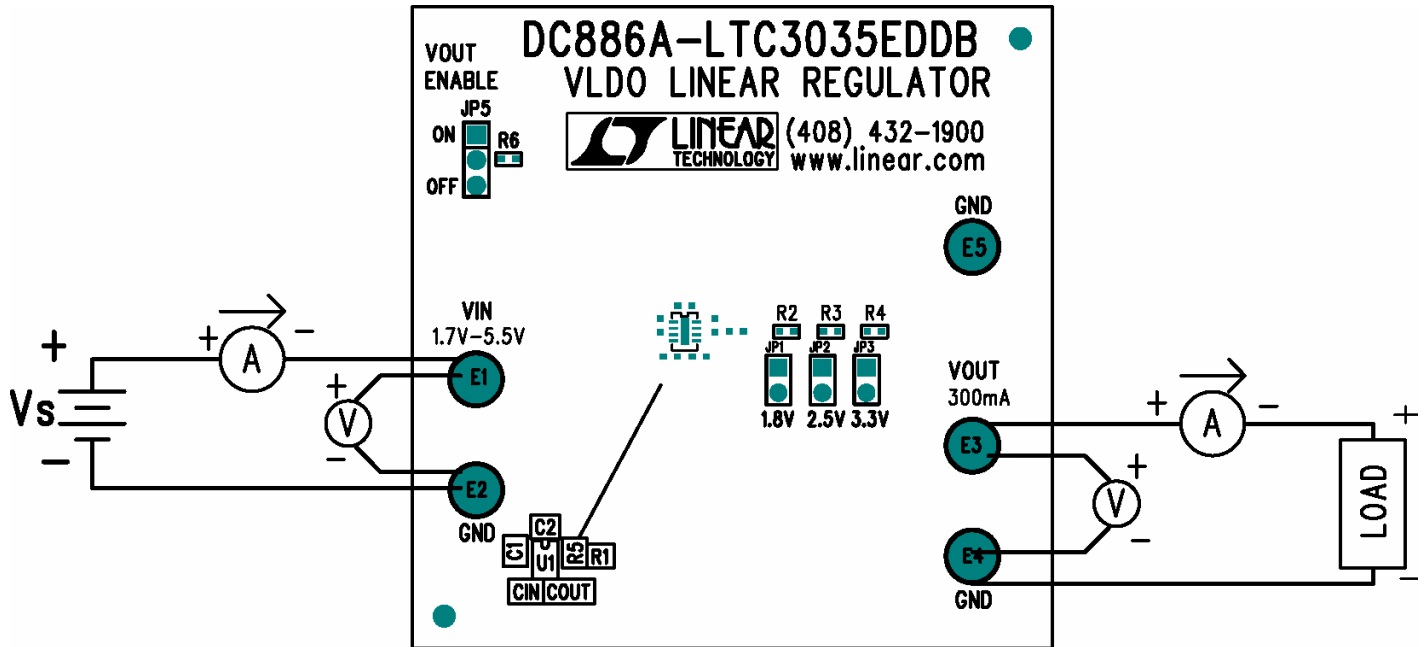

Figure 1. Proper Measurement Equipment Setup
The DC886 demonstration board is easy to set up to evaluate the performance of the LTC3035. For proper measurement equipment configuration, set up the circuit according to the diagram in **Figure 1**. Before proceeding to test, insert jumper JP5 shunt into the off (lower) position, connecting the RUN pin to ground (GND), which shuts down the circuit.
1. Connect the input power supply and the load to the board. Do not hot-plug  $V_{IN}$  or increase  $V_{IN}$  over the rated maximum supply voltage of 5.5V, or the part may be damaged. Refer to Figure 1 for the proper measurement equipment setup.